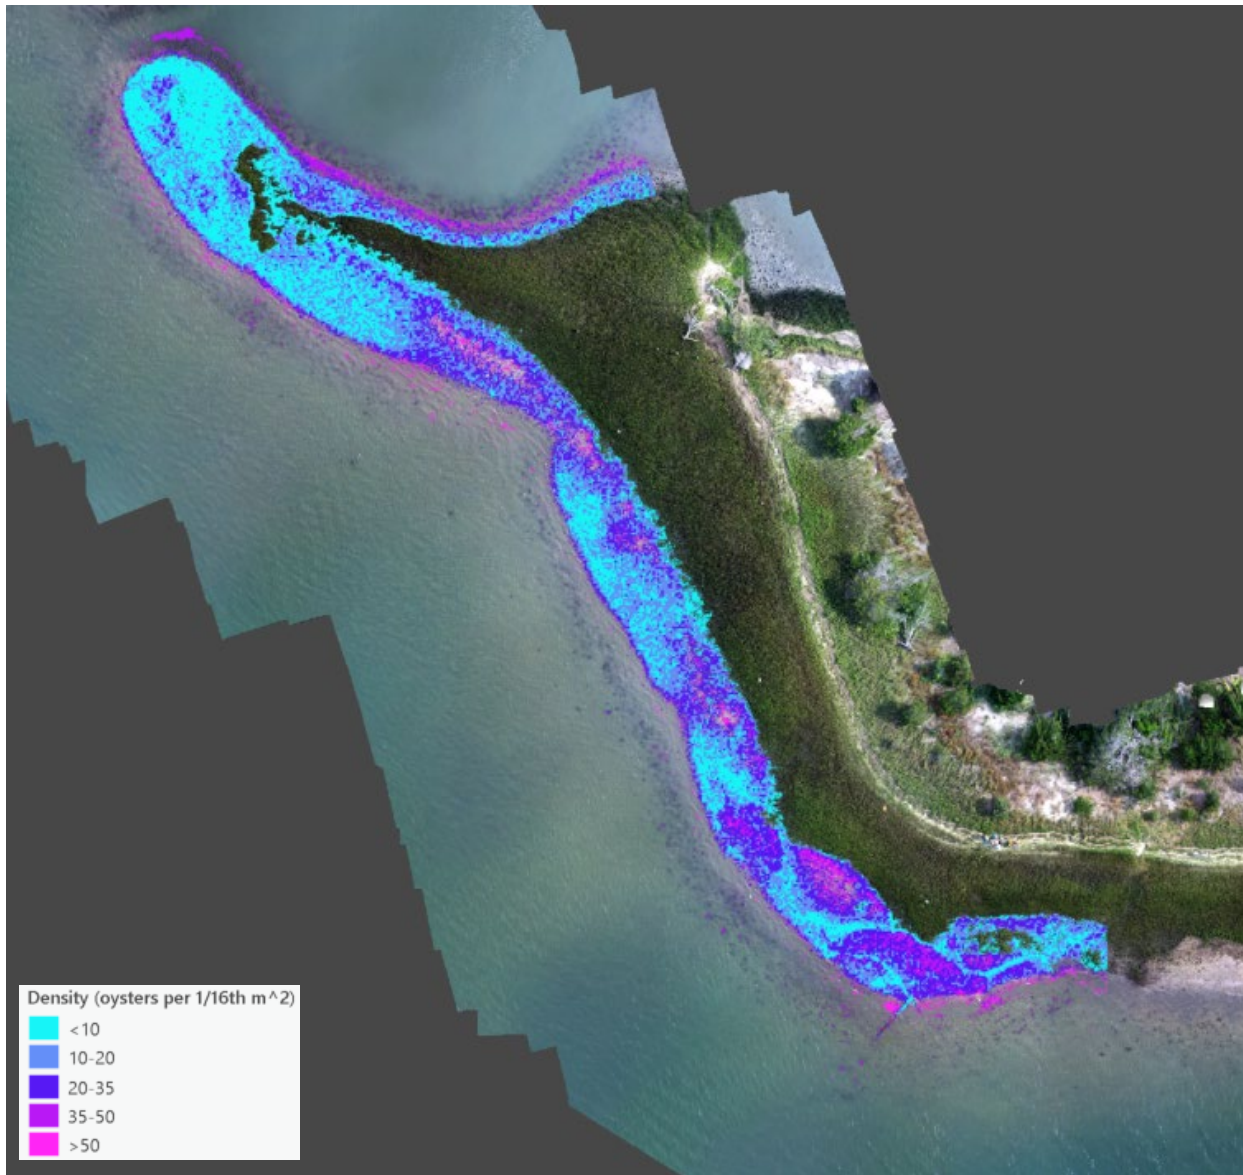

Figure 1. Estimate of total oyster density (oysters per 1/16th m²) at Pivers Island, NC (2023).
-In the contents pane, right click on SiteYear_density_Total and select symbology (use Classify as primary symbology). Select Total density as the 'Field'. Select desired symbology settings for method, number of classes, and color scheme. See Figure 1 for an example.